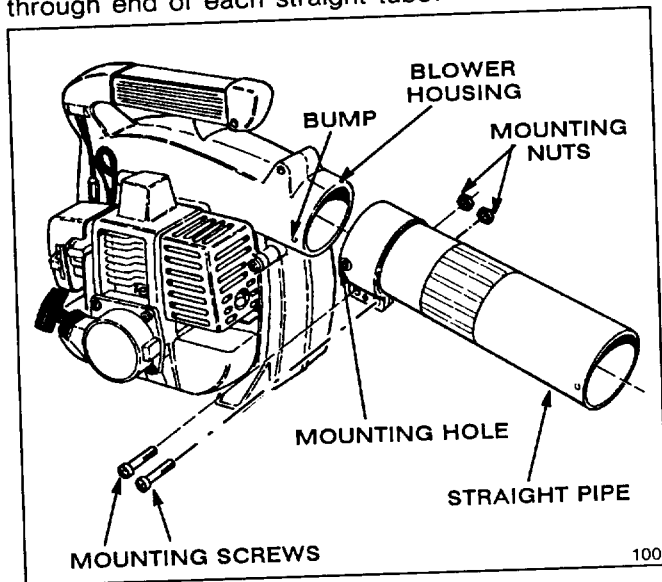

Figure 1
INSTALL BLOWER PIPES TO BLOWER HOUSING (Fig. 1 & 2)
2. Slide a straight tube onto blower housing as shown in Fig. 1. Bumps on blower housing must engage holes in pipe.